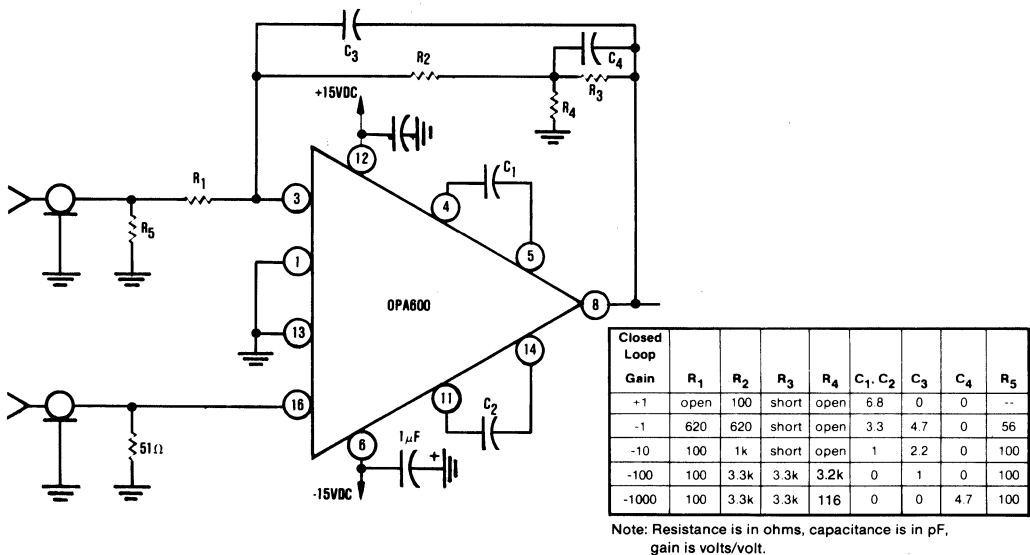

FIGURE 4. Recommended Amplifier Circuits and Frequency Compensation.
1/ Refer to Figure 4 for recommended frequency compensation.
3.3.3 Frequency compensation. The amplifier must be externally frequency compensated. See Figure 4.